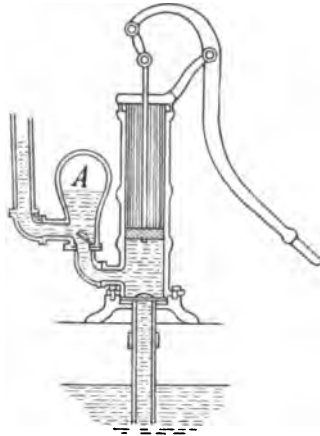

FIG. 43.—A force pump with an air chamber (A)
**63. The Force Pump.**—The force pump is used to deliver water under pressure either for spraying or to an elevated reservoir. The piston is solid, the second valve being placed at the entrance of the discharge pipe. (See Fig. 43.) The action is the same as that of the lift pump, with this exception; the piston in its down